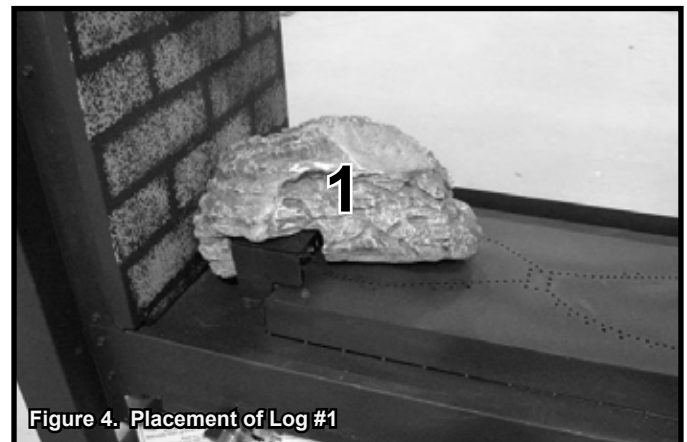

Figure 4. Placement of Log #1
STEP 2. Log #1: Place Log #1 so that the large cutout on the bottom of the log fits over the pilot shield as shown in Figure 4. The hole in the bottom of Log #1 interlocks with the head of the shoulder screw on the burner.